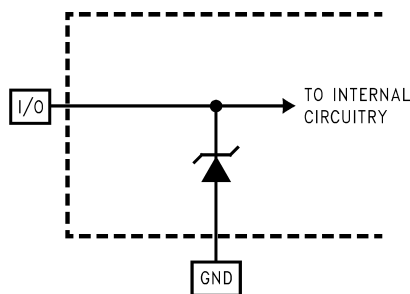

Figure 1.
- (1) The inputs are protected as shown in Figure 1. Input voltage magnitudes up to 5V above V_A or to 5V below GND will not damage this device, provided current is limited per Note 3. However, errors in the A/D conversion can occur if the input goes above V_A or below GND by more than 100 mV. As an example, if V_A is 4.75V, the full-scale input voltage must be $\leq 4.85V$ to ensure accurate conversions.
- (2) To guarantee accuracy, it is required that $|V_A - V_D| \leq 100mV$ and separate bypassed capacitors are used at each power supply pin.
- (3) With the test condition for $V_{REF} = +2.0V$, the 12-bit LSB is 488μV.
- (4) Timing specifications are tested at the TTL logic levels, $V_{IL} = 0.4V$ for a falling edge and $V_{IH} = 2.4V$ for a rising edge. TRI-STATE output voltage is forced to 1.4V.
- (5) Typical figures are at $T_A = T_J = 25^\circ C$, and represent most likely parametric norms.
- (6) Tested limits are guaranteed to TI's AOQL (Average Outgoing Quality Level).
- (7) Integral Non Linearity is defined as the deviation of the analog value, expressed in LSBs, from the straight line that passes through positive full-scale and zero.
- (8) Optimum SNR performance will be obtained by keeping the reference input in the 1.8V to 2.2V range. The LM4041CIM3-ADJ (SOT-23 package), the LM4041CIZ-ADJ (TO-92 package), or the LM4041CIM-ADJ (SOT-8 package) bandgap voltage reference is recommended for this application.
- (3) With the test condition for $V_{REF} = +2.0V$, the 12-bit LSB is 488 μV .
- (3) Typical figures are at $T_A = T_J = 25^\circ C$, and represent most likely parametric norms.
- (5) Tested limits are guaranteed to TI's AOQL (Average Outgoing Quality Level).